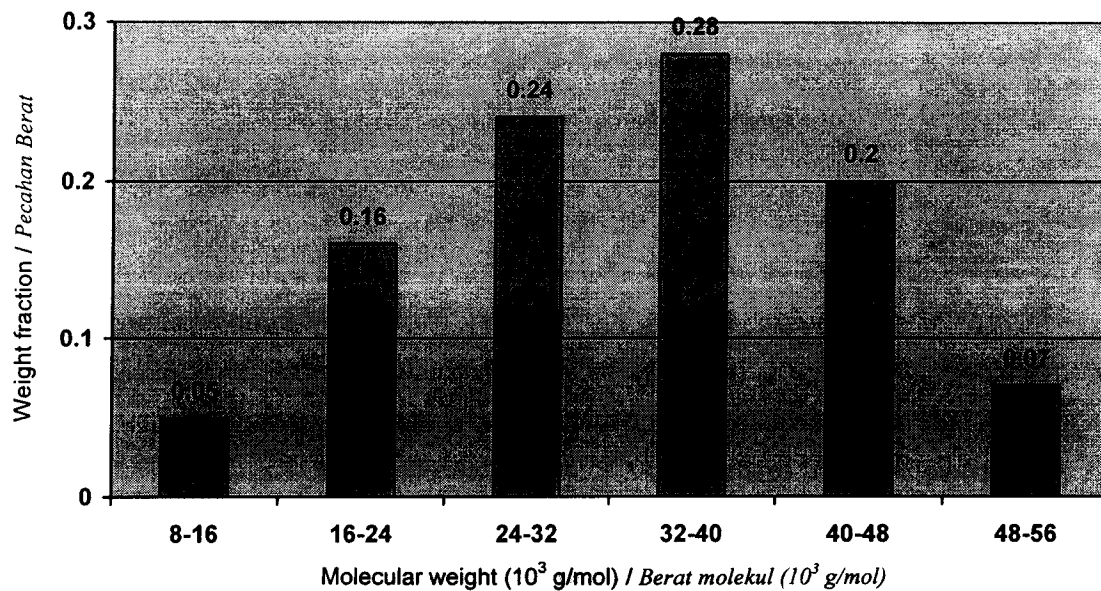

Figure 1: Hypothetical polymer molecule size distributions of polypropylene on the basis of weight fractions of molecules
- [c] Figure 1 shows a hypothetical polymer molecule size distribution for polypropylene.